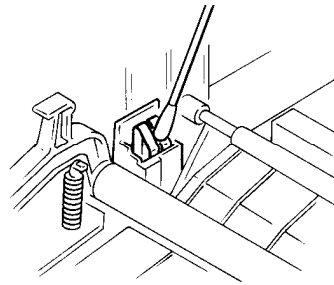

Figure 8. Front HV Connector
- a. Inspect or clean the contacts on the front HV connector using a cotton swab (Figure 8).